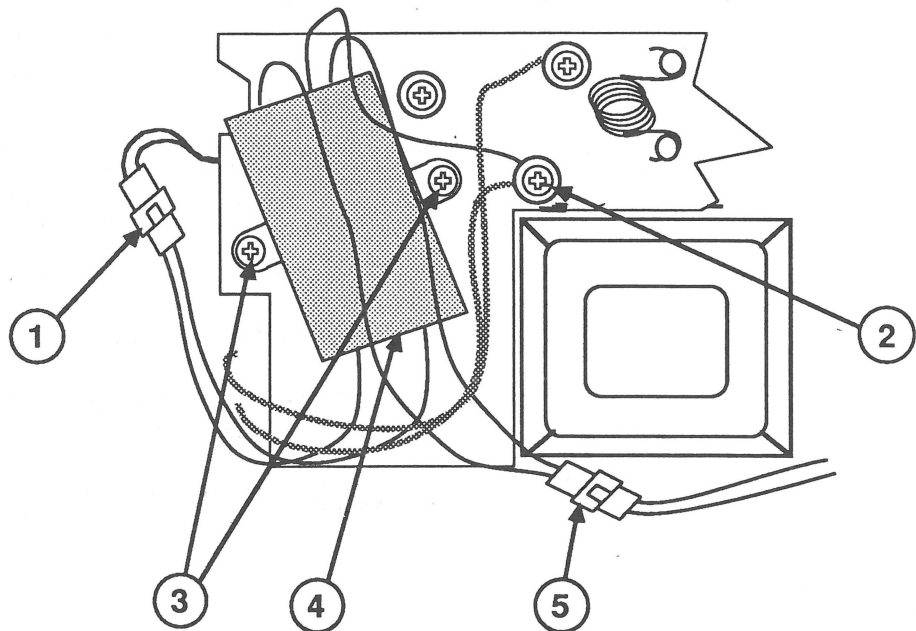

FIGURE 40
2. Disconnect the noise filter from the AC receptacle by unplugging the 2-pin connector at the rear of the printer (Figure 40, #1).
3. Remove the Phillips screw (Figure 40, #2) that holds the three ground wires to the printer chassis.
4. Remove the two Phillips screws (Figure 40, #3) that attach the noise filter (Figure 40, #4) to the printer chassis.
5. Disconnect the noise filter from the power switch by unplugging the 2-pin connector (Figure 40, #5) at the side of the printer.